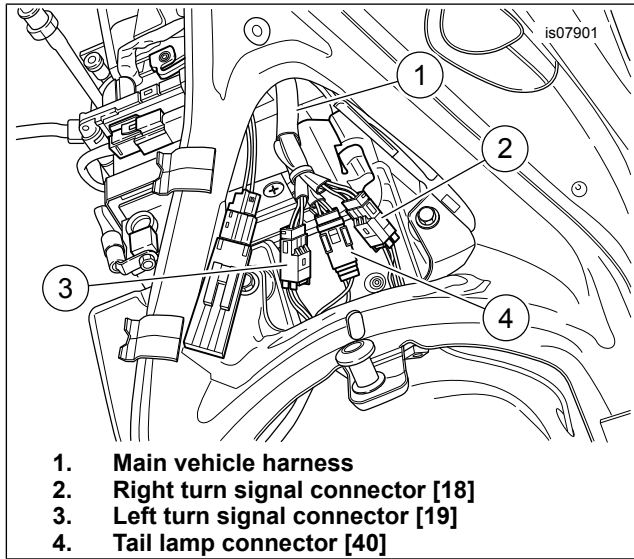

Figure 1. Rear Lighting Connectors Under Seat
1. See Figure 1. Unplug the right (2) and left (3) four-way Multilock turn signal connector halves [18] and [19] in the area under the seat. Unplug the three-way Multilock tail lamp connector halves [40] (4).